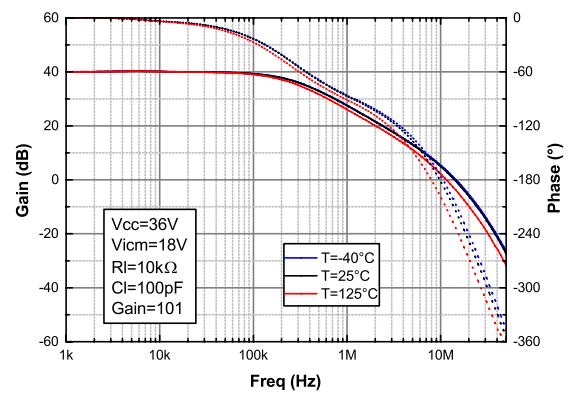
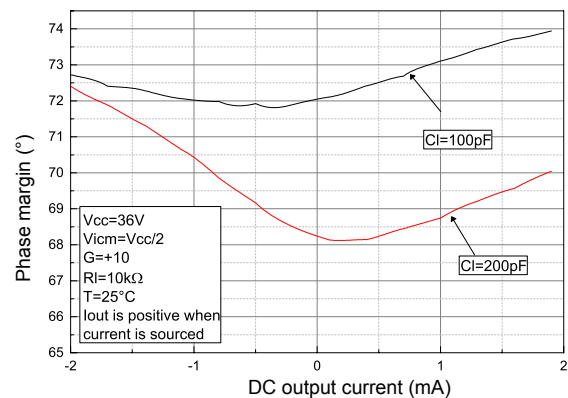

Figure 23. Phase margin vs. output current at $V_{CC} = 5\text{ V}$
Figure 25. Phase margin vs. capacitive load
4. For higher capacitive values see Figure 23. Phase margin vs. output current at \$V_{CC} = 5\text{ V}\$ and Figure 25. Phase margin vs. capacitive load